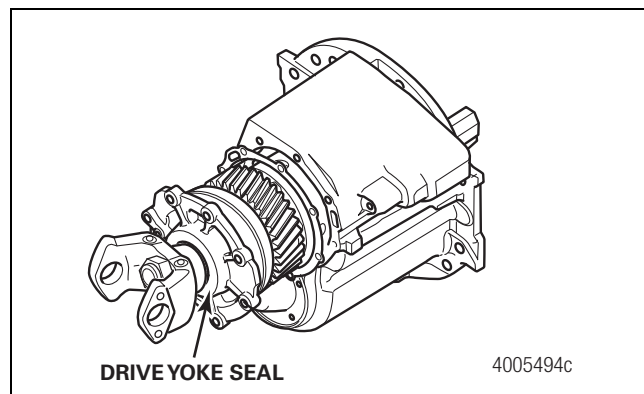

Figure 1
4. Inspect for evidence of a drive yoke seal leak before removing the input bearing cage. Figure 1. Lube from input seal leaks is most often seen on the input bearing cage in the area below the seal. Clean and inspect the joint for leakage at the input cage before you continue with the input cage leak repair.